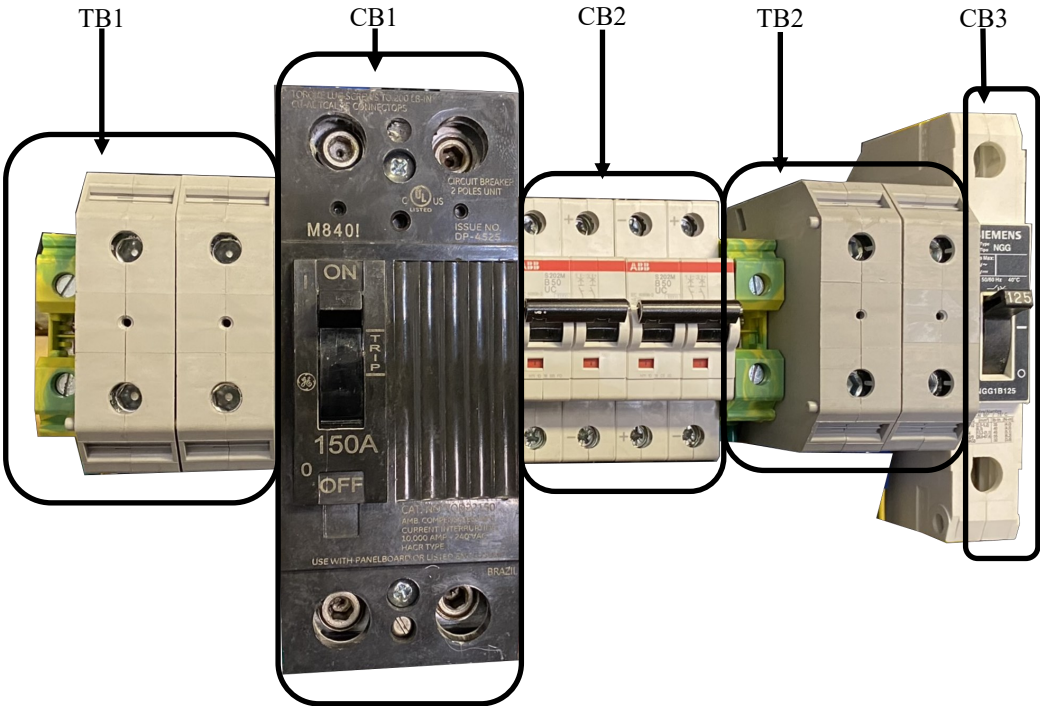
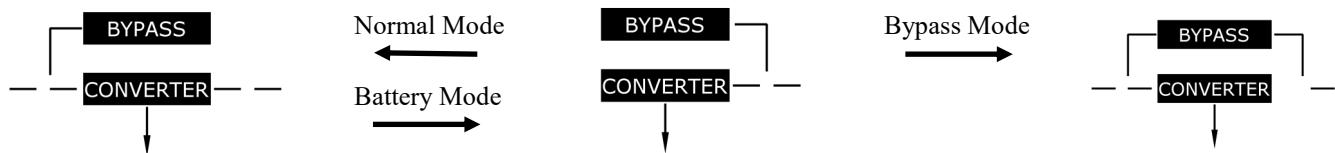

Figure 10
Figure 13
- 6.1.5. Make sure the proper polarity is observed. DC bus should be between 240 and 272 Vdc as tested at the top of the Battery Circuit Breaker-CB2 (Refer to Figure 10 and Figure 13—System Component Layout).
The input power connections to the UPS come from the building supplied services. These connections are made inside the UPS cabinet (refer to Figure 10 and Figure 13, System Component Layout). The input cables are connected to a three (3) pole terminal block(TB1) which is comprised of one (1) input power, neutral, and ground connections.
The output power connections are made inside the UPS cabinet (refer to Figure 10 and Figure 13, System Component Layout). The output cables are connected to a three (3) pole terminal block (TB2) which is comprised of one (1) input power, neutral, and ground connections. The output over-current protection from the DSPM UPS System is the responsibility of the End User.
LCD single line diagram will change depending on current state of operation, Refer to Figure 13.